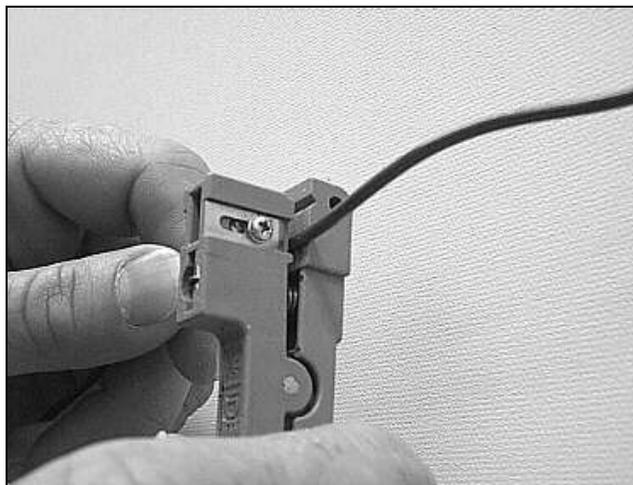

Figure 19 – Score the buffer tube with a buffer tube removal tool.
4.26 Use a buffer tube removal tool to expose the optical fibers. Ring cut the buffer tube at the required length (Figure 19), then bend and snap the tube at the ring cut to separate it. Remove the buffer tube from the fibers. If a long length of fiber must be exposed, it is recommended that the buffer tube be removed in approximately 16-inch lengths.